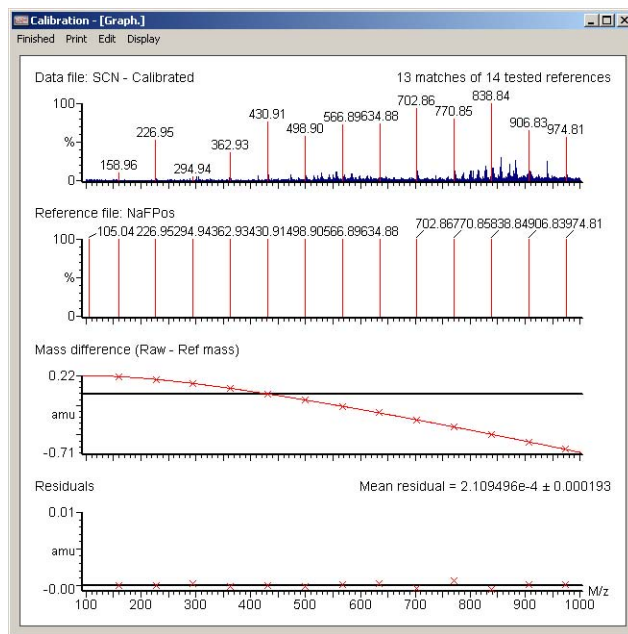

Figure 3-11 Calibration Window Showing Residual Errors
15. When the calibration is complete the data appears in a new Calibration window (Figure 3-11).